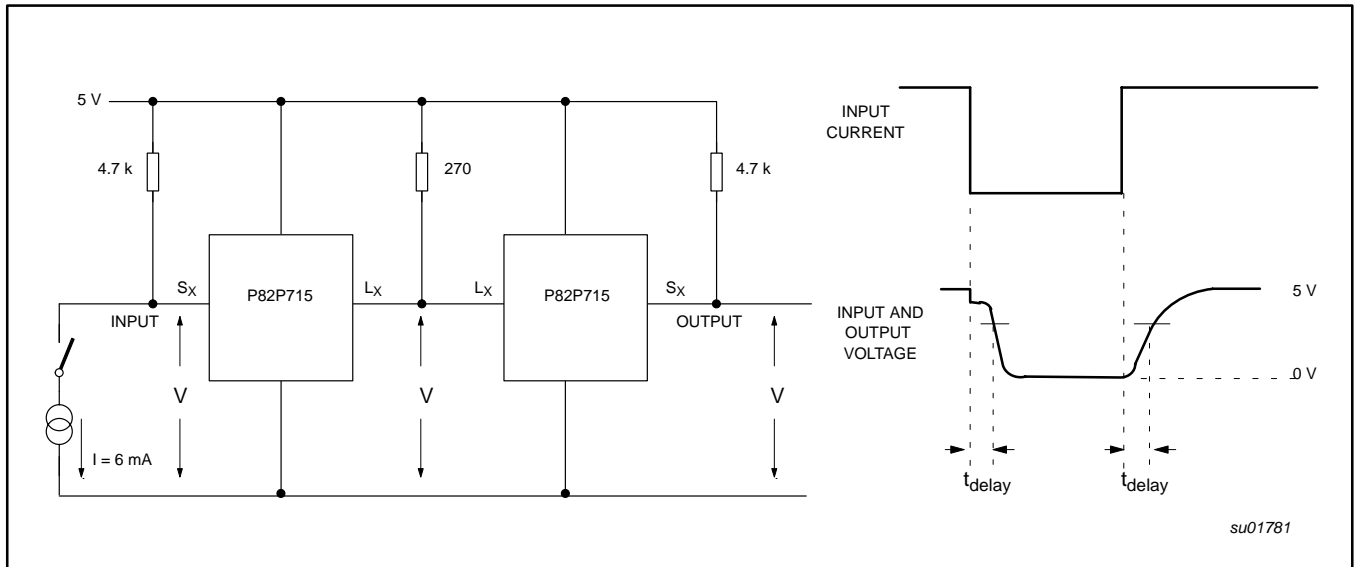

Figure 6. Test circuit for delay times
- A conventional input-output delay will not be observed in the SX/LX voltage waveforms because the input and output pins are internally tied with a 30 Ω resistor so they show equal logic voltage levels, to within 100 mV. When connected in an I2C system an SX/SY input pin cannot rise/fall until the buffered bus load at the output pin has been driven by the internal amplifier. This test measures the bus propagation delay caused to falling or rising voltages at the LX/LY output (as well as the SX/SY input) by the amplifier's response time. The figure given is measured with a drive current as shown in Figure 6. Because this is a dynamic bus test, in which a corresponding bus driving IC has an output voltage well above 0.4 V, 6 mA is used instead of the static 3 mA.